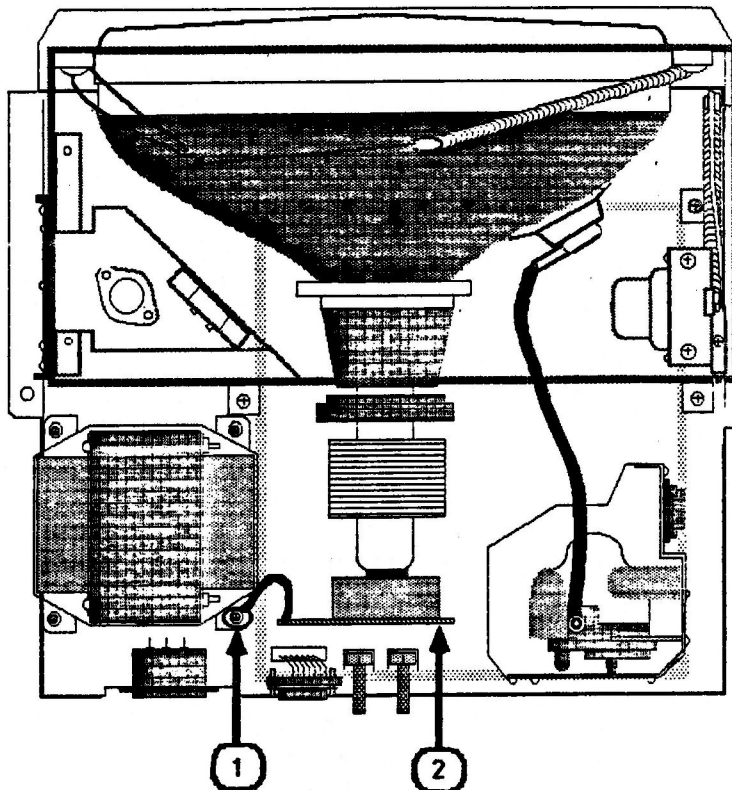

FIGURE 6
6. Disconnect the ground strap by removing the power transformer screw shown in Figure 6, #1.
7. Carefully pull the CRT socket board (Figure 6, #2) away from the CRT neck until it barely clears the neck base. Hold the board so that it does not fall free, and tilt it so that the component side is facing up.
4. Position the ground strap over the power transformer screw hole and tighten the screw. (See Figure 6, #1.)